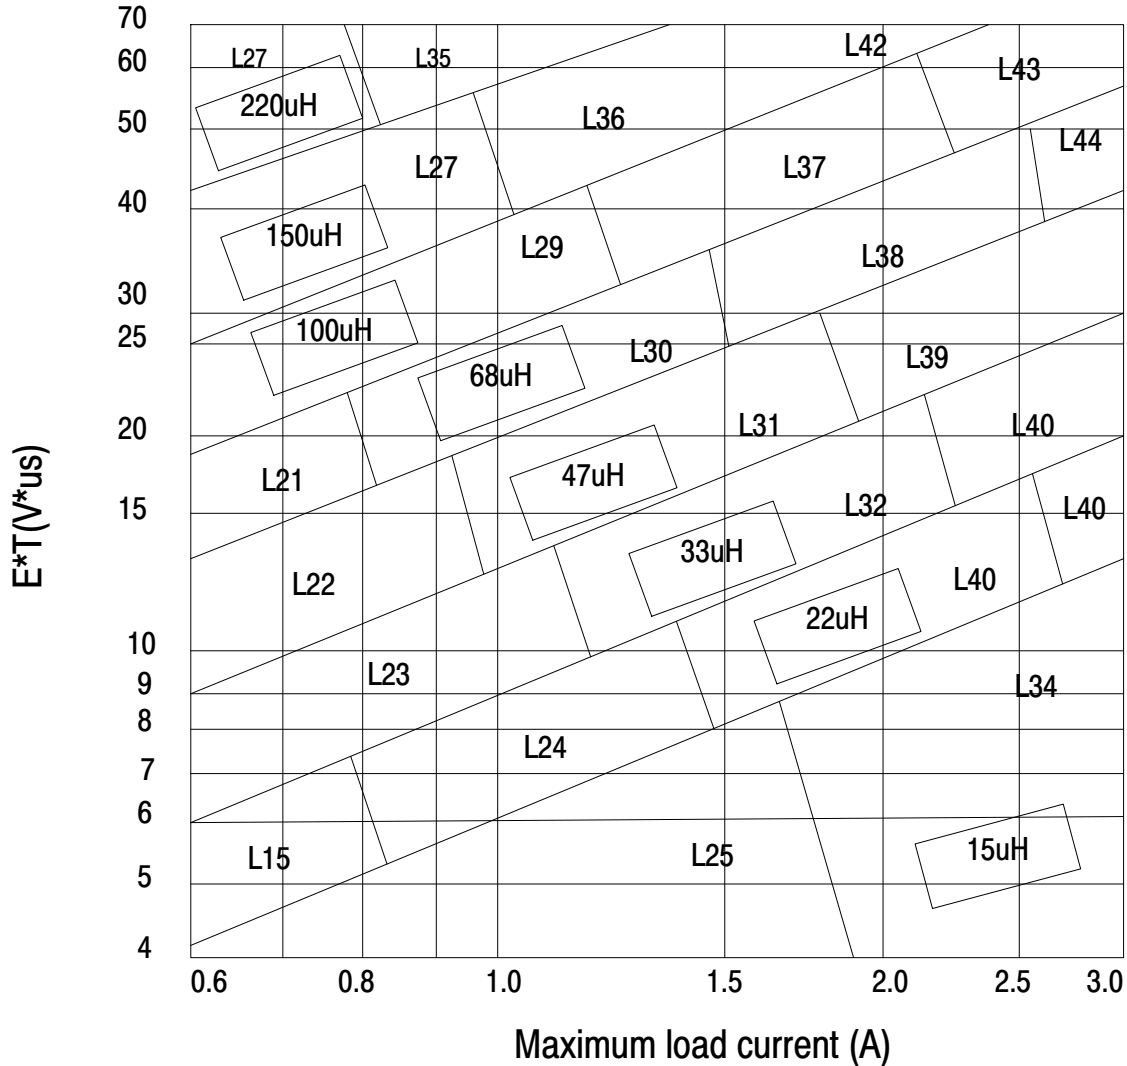

Figure 18. Inductor Value Selection Guides (For Continuous Mode Operation)
4. Inductor Selection (L₁) A. Use the following formula to calculate the inductor Volt x microsecond [V x μs] constant: $E \times T = (V_{IN} - V_{OUT} - V_{SAT}) \times \frac{V_{OUT} + V_D}{V_{IN} - V_{SAT} + V_D} \times \frac{1000}{150 \text{ kHz}} (V \times \mu s)$ B. Match the calculated E x T value with the corresponding number on the vertical axis of the Inductor Value Selection Guide shown in Figure 18. This E x T constant is a measure of the energy handling capability of an inductor and is dependent upon the type of core, the core area, the number of turns, and the duty cycle. C. Next step is to identify the inductance region intersected by the E x T value and the maximum load current value on the horizontal axis shown in Figure 18. D. Select an appropriate inductor from Table 3. The inductor chosen must be rated for a switching frequency of 150 kHz and for a current rating of 1.15 x I_{Load}. The inductor current rating can also be determined by calculating the inductor peak current: $I_{p(max)} = I_{Load(max)} + \frac{(V_{in} - V_{out}) t_{on}}{2L}$ where t_{on} is the "on" time of the power switch and $t_{on} = \frac{V_{out}}{V_{in}} \times \frac{1.0}{f_{osc}}$	4. Inductor Selection (L₁) A. Calculate E x T [V x μs] constant: $E \times T = (12 - 5 - 1.5) \times \frac{5 + 0.5}{12 - 5 + 0.5} \times \frac{1000}{150 \text{ kHz}} (V \times \mu s)$ $E \times T = (5.5) \times \frac{5.5}{7.5} \times 6.6 (V \times \mu s)$ B. E x T = 27 [V x μs] C. I_{Load(max)} = 3.0 A Inductance Region = L40 D. Proper inductor value = 33 μH Choose the inductor from Table 3.
To simplify the inductor selection process, an inductor selection guide for the LM2596 regulator was added to this data sheet (Figure 18). This guide assumes that the regulator is operating in the continuous mode, and selects an inductor that will allow a peak-to-peak inductor ripple current to be a certain percentage of the maximum design load current. This percentage is allowed to change as different design load currents are selected. For light loads (less than approximately 300 mA) it may be desirable to operate the regulator in the discontinuous mode, because the inductor value and size can be kept relatively low. Consequently, the percentage of inductor peak-to-peak current increases. This discontinuous mode of operation is perfectly acceptable for this type of switching converter. Any buck regulator will be forced to enter discontinuous mode if the load current is light enough.